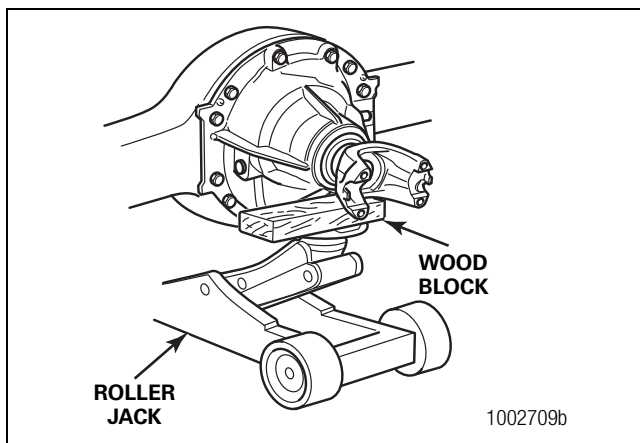

Figure 3.6
1. Place a hydraulic roller jack under the differential carrier to support the assembly. Figure 3.6.